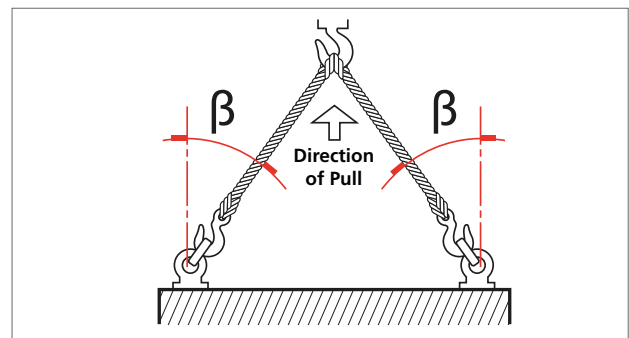

Fig 7.2 Lifting angle
- Angle  $\beta$  must be between  $0^\circ$  and  $45^\circ$  as shown in Fig 7.2